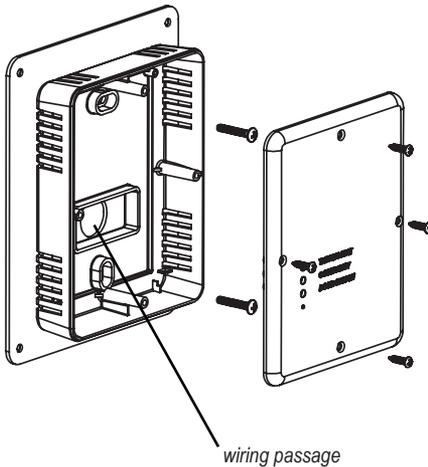

Figure 4.
2. Pull equipment wires through the R2500 wiring passage (see Fig. 4).
7. Re-attach the R2500 front cover (see Fig. 4).